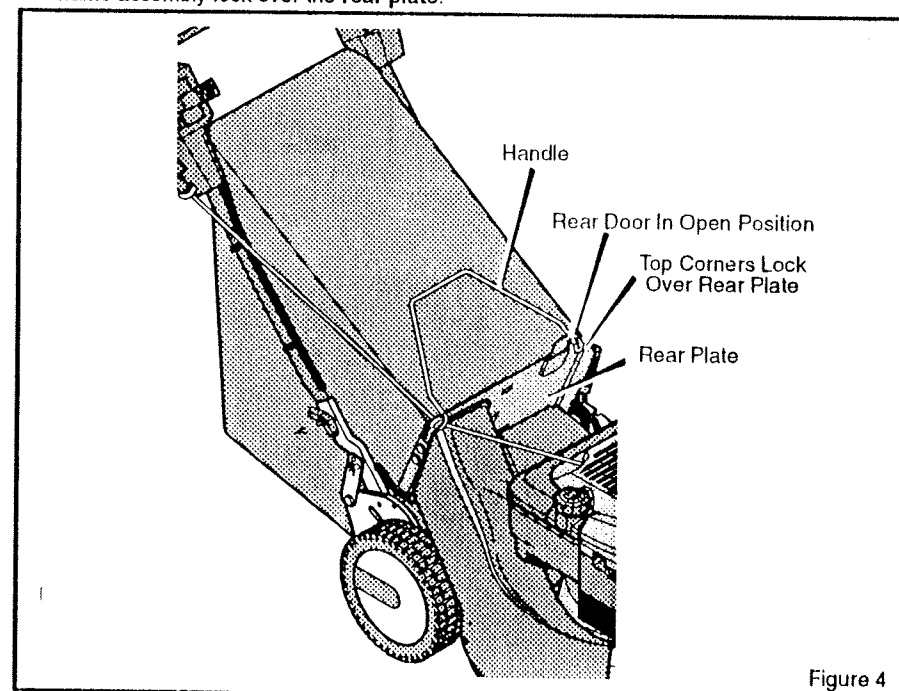

Figure 4
4. Hold the **handle** on top of the grass bag. Open the **rear door** and remove the mulcher plug (Figure 7). Mount the grass bag to the **rear plate** (Figure 4). Make sure the **top corners** of the frame assembly lock over the **rear plate**.